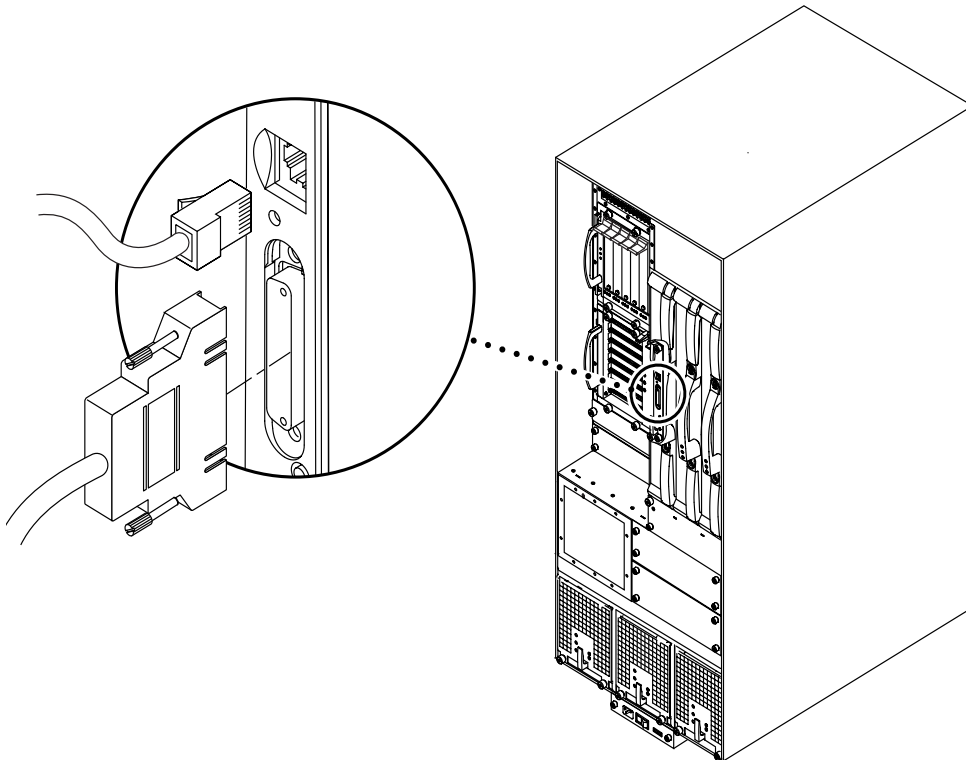

FIGURE 3-2 Primary System Controller Connections on the Sun Fire 4810 System
1. Connect one end of the serial cable (TTYa or Null modem) to the serial port on the primary System Controller board (FIGURE 3-2).
1. Connect one end of the shielded Category-5 Ethernet cable to the RJ-45 Ethernet port on the primary System Controller board (FIGURE 3-2).